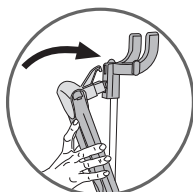

fig.5
1. Insert it into the hole on the steam head hook - fig.5